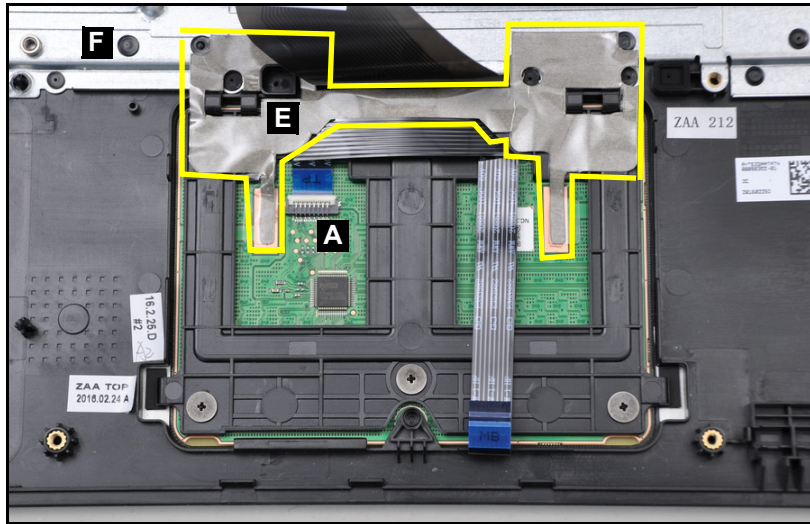

Figure 3-91. Replacing the Touchpad Module
4. Attach the touchpad conductive cloth (F) to the touchpad module (A) and top assembly (E) (Figure 3-91).